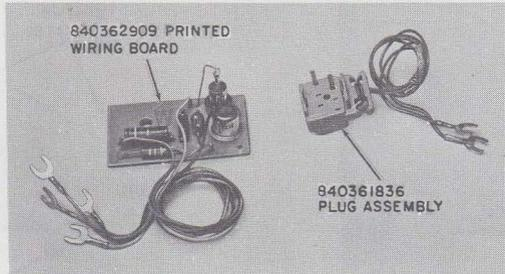

Fig. 18—D-180463 Kit of Parts—Station Busy Lamp Feature
**2.28** To provide station busy lamp feature with early production telephone sets equipped for both handset and headset operation and 590- and 650-series keys install a 840362909 Printed Wiring Board Assembly, ordered separately, (Fig. 18). ♦The printed wiring board assembly is provided with adhesive backing to permit mounting on any clean, flat surface.♦
**2.29** To provide station busy lamp feature with current production telephone sets equipped for both handset and headset operation and 635-type keys, a D-180463 Kit of Parts consisting of an 840362909 Printed Wiring Board Assembly and 840361836 plug assembly, ordered separately, must be installed (Fig. 18).